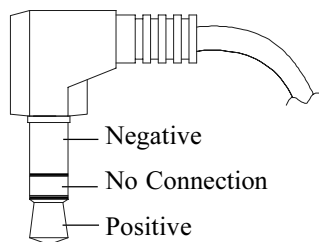

Figure 1
- The PS112's Power Control will function with 5 to 20 volts applied to the Power Control Input. Use a 1/8 inch stereo mini phone plug to connect to the Power Control Input. Refer to figure 1.*